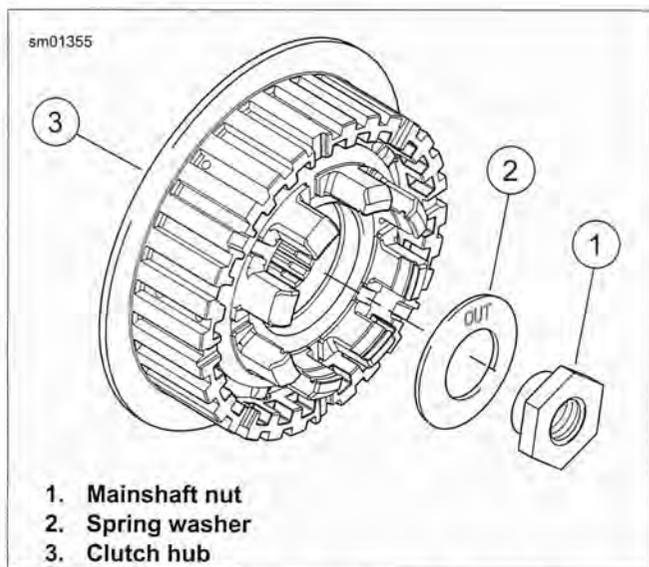

Figure 5-18. Mainshaft Nut and Washer
See Figure 5-18. Washer (2) must be installed with the word "out" facing the transmission mainshaft nut (1). Incorrect assembly can result in clutch and/or transmission failure.
- See Figure 5-18. Apply two or three drops of LOCTITE 262 (red) onto threads on end of transmission mainshaft. Install spring washer (2) and mainshaft nut (1) (left-hand threads) on transmission mainshaft. Tighten nut to 50-60 ft-lbs (67.8-81.3 Nm).